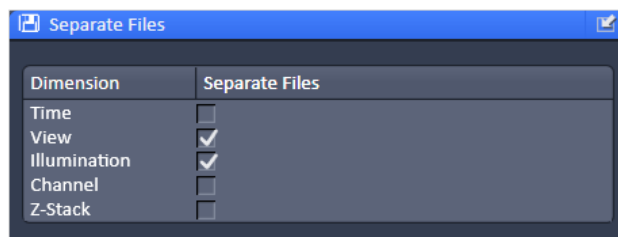

Figure 7 Separate Files tool window
21. Chose a folder in the opened Windows (OS) window and save the .mvl file with a recognizable name.
27. Open the **Separate Files** tool window (Fig. 7) and activate the checkboxes of **View** and **Illumination**. This will save all views and the respective illumination sides in separate files, which maybe necessary to stitch the tiles and generate one image with third party software.
26. Chose a folder in the opened Windows (OS) window and save the .mvl file with a recognizable name.
32. Open the **Separate Files** tool window (Fig. 7) and activate the checkboxes of **View** and **Illumination**. This will save all views and the respective illumination sides in separate files, which may be necessary to stitch the tiles and generate one image with third party software.
33. Start the experiment by pressing the Start Experiment button. A Windows (OS) window opens for you to define the folder in which the experiment will be saved.
- 1.9 Open the **Separate Files** tool window (Fig. 7) and activate the checkboxes of **View** and **Illumination**. This will save all views and the respective illumination sides in separate files, which may be necessary to stitch the tiles and generate one image with third party software.
- 2.19 Open the **Separate Files** tool window (Fig. 7) and activate the checkboxes of **View** and **Illumination**. This will save all views and the respective illumination sides in separate files, which may be necessary to stitch the tiles and generate one image with third party software.